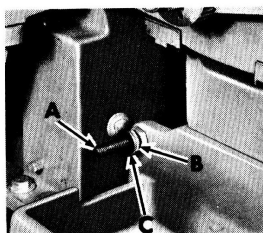

Figure 5
7. Place square head bolt (A, fig. 5) in lathe leg and lock with jam nut - position nut (B) and washer (C) on bolt.